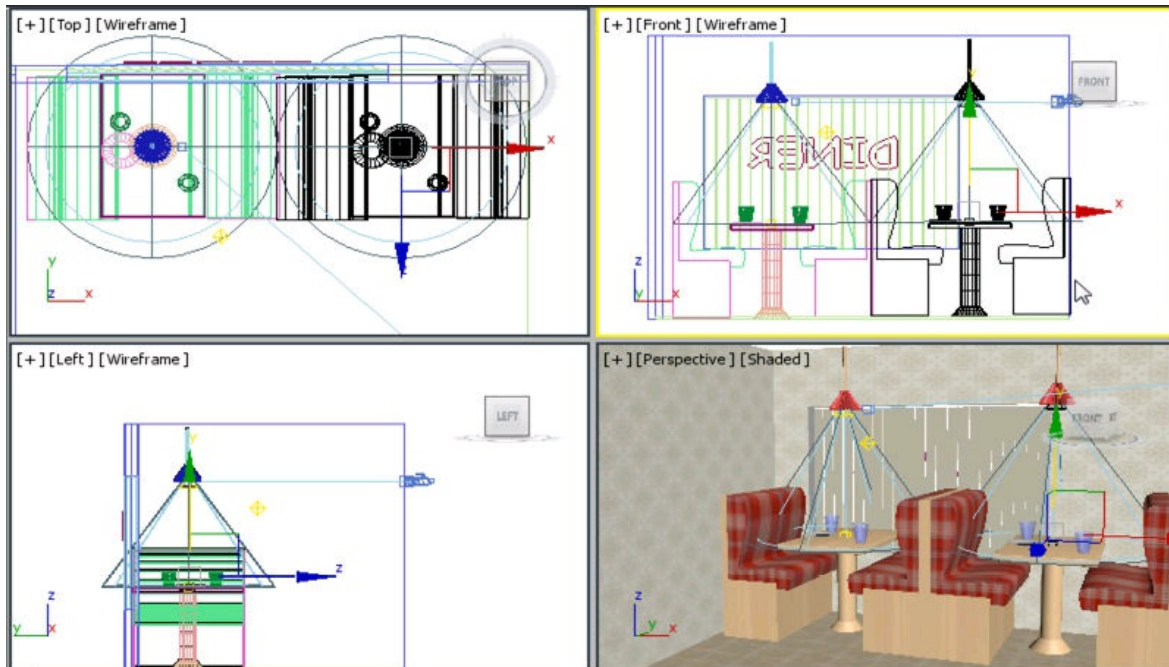

Figure P1-26 The selected objects copied and positioned
14. In this dialog box, enter the name **DinerSet01** in the **Name** text box and select the **Copy** radio button. Now, choose the **OK** button; another set of selected objects is created, as shown in Figure P1-26.